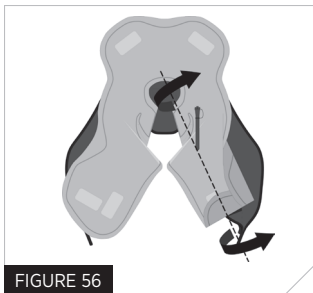

FIGURE 56
3. Fold inside edge in towards the centre of the bladder along fold line 3 (Fig 56).